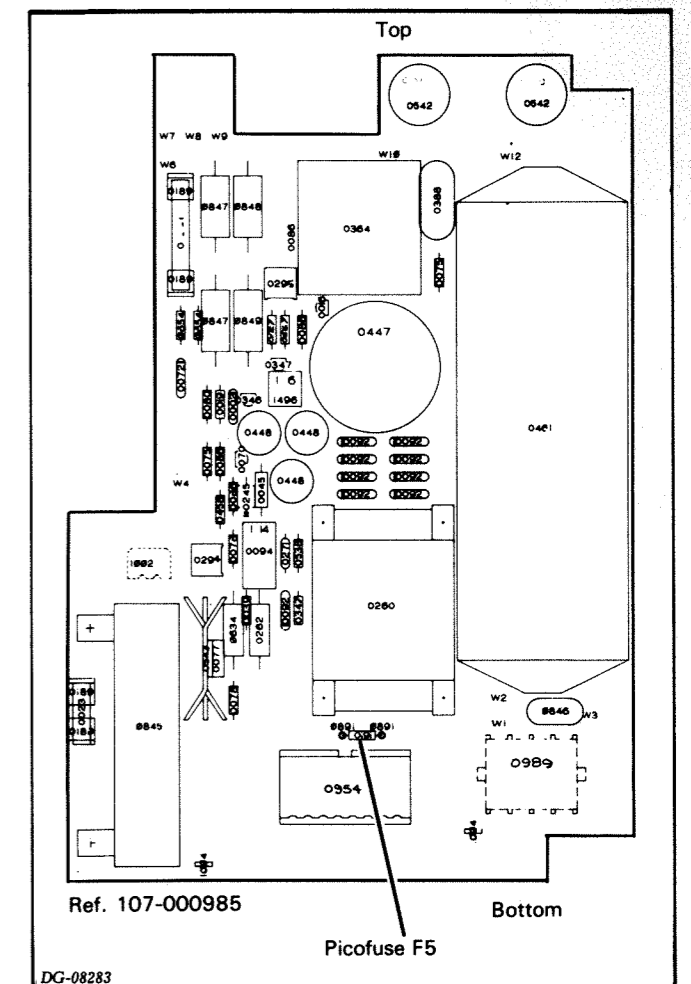

Figure 6.6A LOCATION OF PICO FUSE ON PC BOARD INSIDE VNR UNIT
4. Check the 1.5A, 125V pico fuse F5 (DGC No. 113-000191) on the PC board in the VNR unit (See Figure 6.6A). If it is blown, replace it.